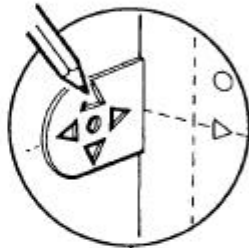

Fig. 34
10. Holding the template firmly, mark the vertical centre line for the flue assembly by marking the point at the outer corners of the upper and lower cut outs (Fig. 34).